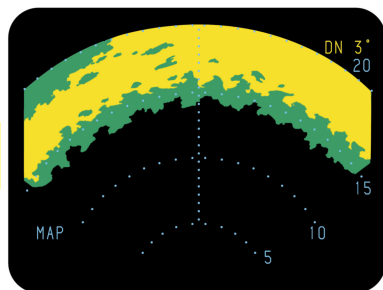
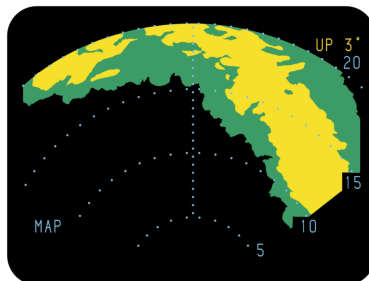

Figure 1
Figure 2
4. While flying level (0 degree pitch, 0 degree roll), adjust the tilt control for a video pattern shown in Figure 1.
6. Turn the STAB on. If the pattern appears as Figure 2 or 3, the RDR 2000 can compensate for this using ROLL TRIM. Adjust the ROLL TRIM with a small screwdriver through access on radar indicator controller until figure 1 is achieved.
8. For perfect stabilization, the pattern shown in Figure 1 should not shift. The information displayed will change, however, the inner extremity should remain coincident with the third range mark.
9. If the pattern shifts as shown in Figure 2, increase the tilt angle until the edge of the video pattern reaches the same position as the center was before the roll maneuver. Note the new position of the tilt control. Proceed to step 11.
13. Check pitch performance as follows: Re-establish Figure 1 by flying straight and level. Momentarily pitch the aircraft up 5 degrees (no more than 10 to 20 seconds to minimize altitude change). If the inner ring of clutter moves further out in range, readjust the tilt downward until the pattern returns as it was before the pitch maneuver. Note the tilt change. If the clutter moved inward, adjust the tilt upward and note the change. If the tilt change is greater than 2 degrees, the system should be ground checked to recalibrate the pitch.